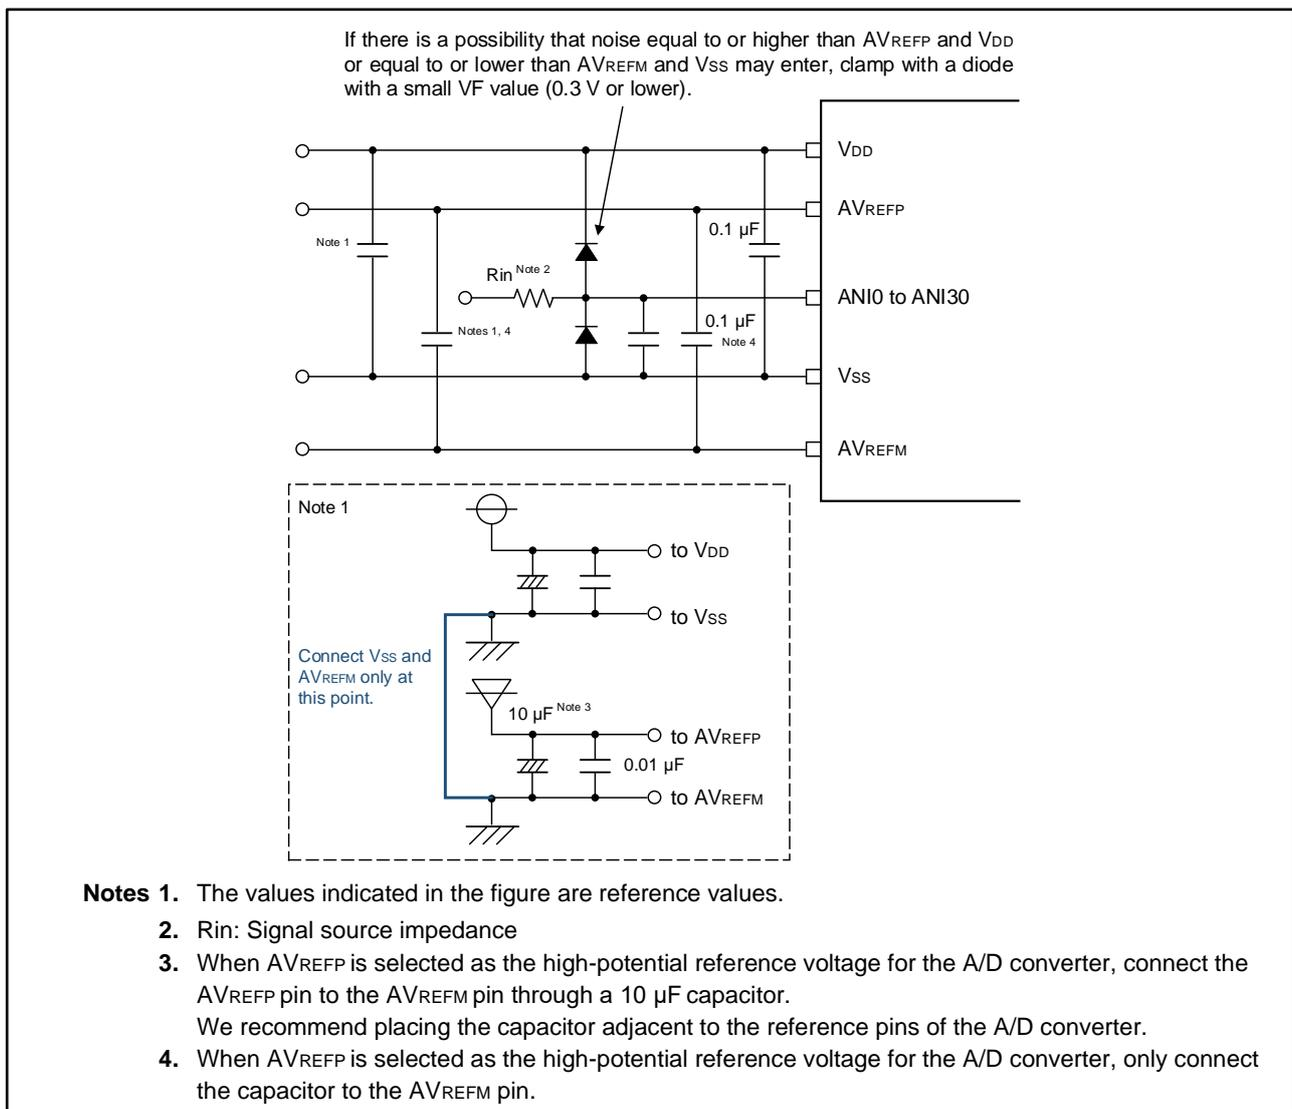

Figure 12: Sample Protection Circuit for Analog Inputs
- To prevent the analog input pins (ANI0 to ANI30) from being destroyed by abnormal voltage such as excessive surge, a capacitor should be inserted between  $V_{DD}$  and  $V_{SS}$  and between  $AV_{REFP}$  and  $AV_{REFM}$ , and a protection circuit should be connected to protect the analog input pins (ANIx) as shown in Figure 12.
P.16	The circuit example in Figure 12 has been modified.